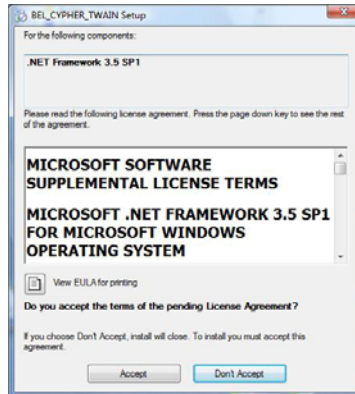

Fig 1 .NET Framework 3.5 SP1 Setup screen
- 3) .NET Framework 3.5 SP1 setup display such as Fig 1 starts automatically.
※In case of .NET Framework 3.5 SP1 is already installed, Fig 1 is not displayed.
① Make sure the main power is off. Remove covers from Rotation Unit. (Figure 1)
② Cover radiation aperture with lead
③ Turn on the power of PC that is connected to Bel-Cypher. Hit Ctrl + Alt + T simultaneously to get into Test mode.
④ Set exposure condition by referring the Operation Manual.